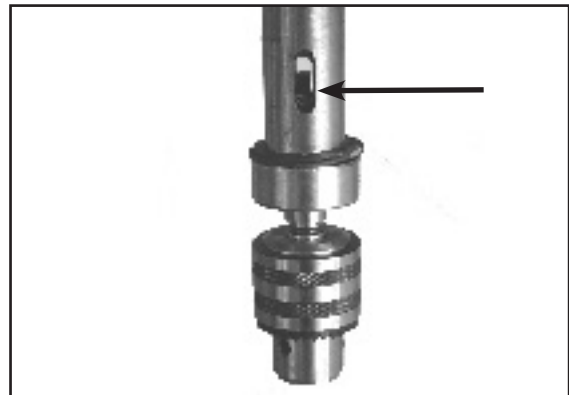

Figure 12
3. Carefully insert the chuck and arbor assembly into the spindle, making sure to align the flat part of the arbor with the spindle. (Fig. 12)